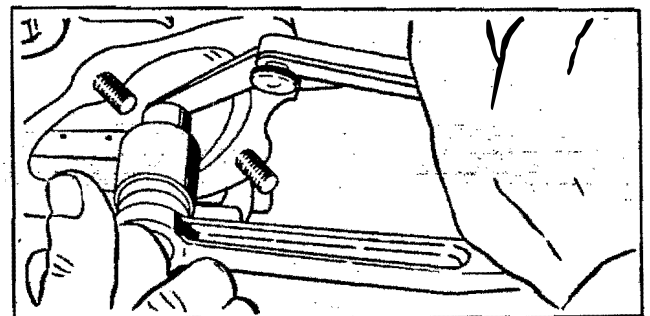

Figure 7-12. Checking Valve Adjustment
c. Loosen the adjusting screw locknut three or four turns. Insert the .010 inch feeler of R41-G-415 Gage between the valve stem and the adjusting screw insert [Figure 7-12]. Using PWA-4152 Driver, set the adjusting screw so that there is a slight drag on the feeler gage. Lock the screw in this position by tightening the locknut to the recommended torque.